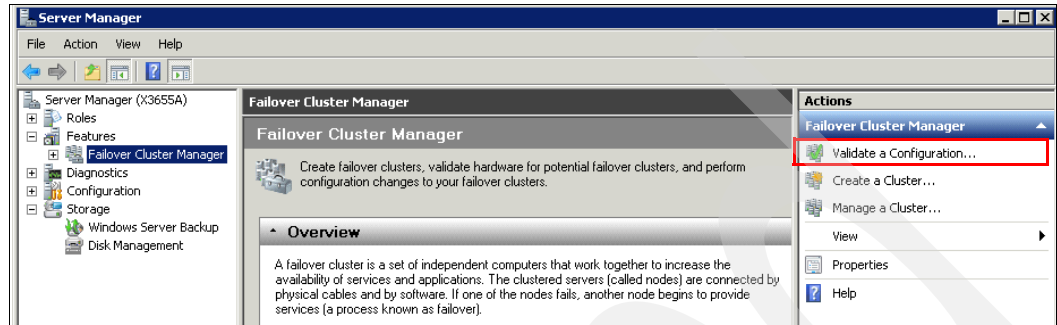

Figure 5-86 Windows Failover Cluster Manager
1. From the Windows Server Manager, select the **Failover Cluster Manager** (Figure 5-86). The Actions pane on the right will show available actions. The first action that is displayed is "Validate a Configuration". Click that entry to start the wizard.